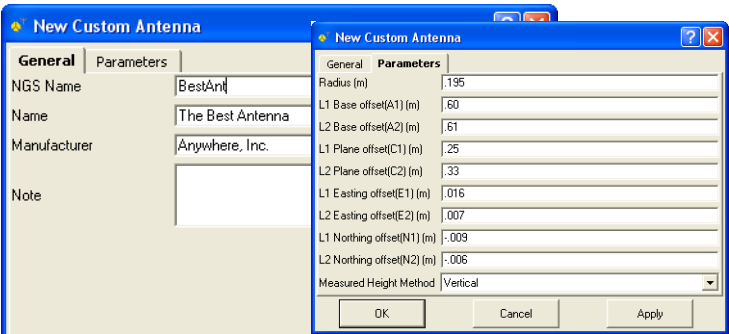

Figure 5-11. New Custom Antennas – General and Parameters Tabs
- On the *General* tab of the *New Custom Antennas* dialog box, edit the *NGS Name*, *Name*, *Manufacturer*, and *Note* fields (Figure 5-11 on page 5-12). Then click **Apply** to save the information.
- On the *Parameters* tab of the *New Custom Antennas* dialog box, enter the *Radius*, *offsets*, and *Measured Height Method* parameters for the antenna (Figure 5-11 on page 5-12). Then click **Apply** to save the information.